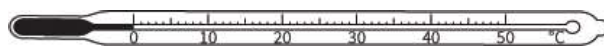

Figure P1.9: For Question 6.
- 6** Estimate the uncertainty when a girl measures the temperature of a bath of water using the thermometer in Figure P1.9.